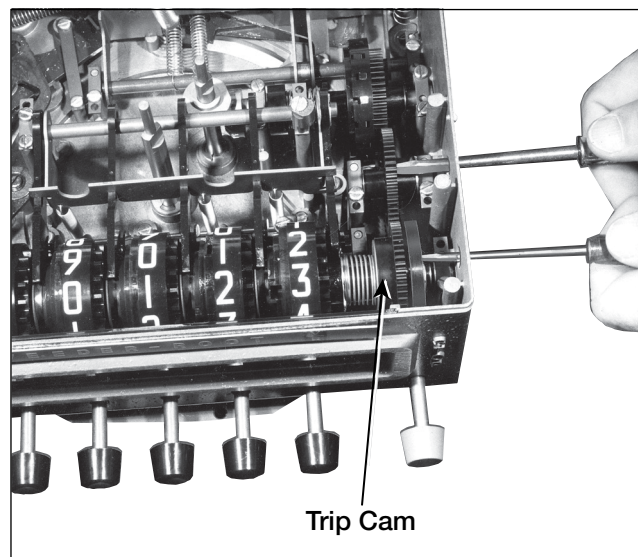

Figure 3. Trimming the Right-Hand Wheel
1. Remove the lock-wired plate covering the trim holes on the right side of the Preset. Older models have trim hole plugs. Insert one small screwdriver blade in each of the two trim holes (Figure 3).